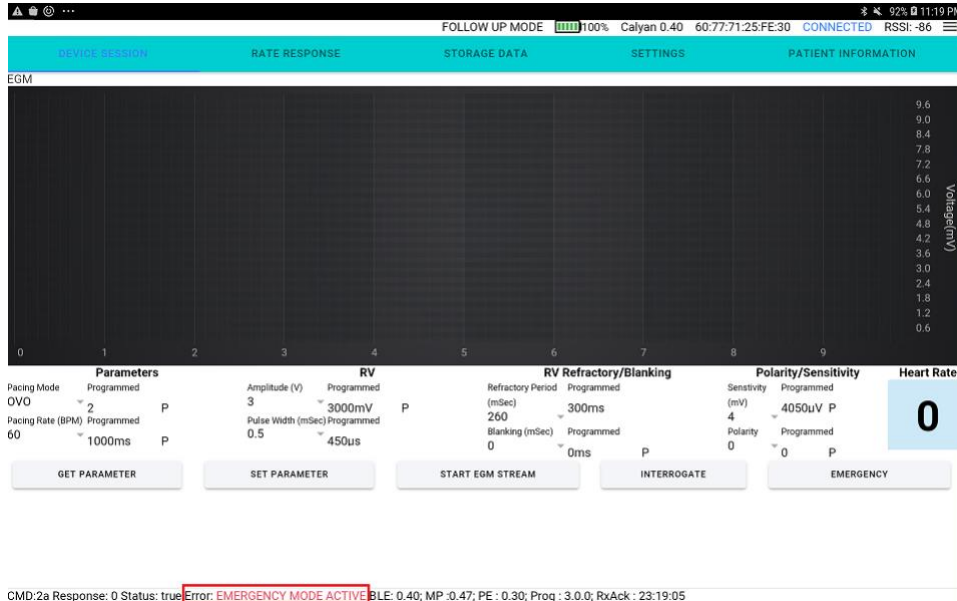

Figure 224: Emergency Mode Active
4. During hardware emergency if the programmer interrogates the Device, an “EMERGENCY MODE ACTIVE” is displayed on the bottom left of the programmer (Figure 224).